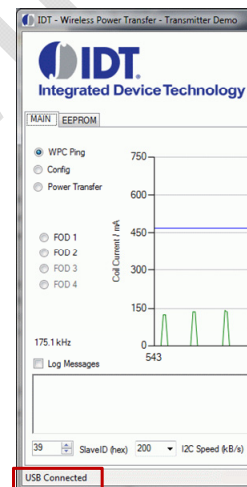

Figure 10. Windows GUI Main tab
You can verify that the IDTP9023 is properly connected to your computer and able to communicate to the evaluation board by looking at the lower left of Figure 10. It should state “USB Connected”. Otherwise it will state in Red letters: “USB Disconnected – Check Connection”.
2. Reset the JM60 by momentarily connecting a jumper wire from pin 4 on the J2 connector to ground. The USB will disconnect and reconnect on the GUI Screen (See Figure 10 left). When the wire is removed, program the EEPROM.